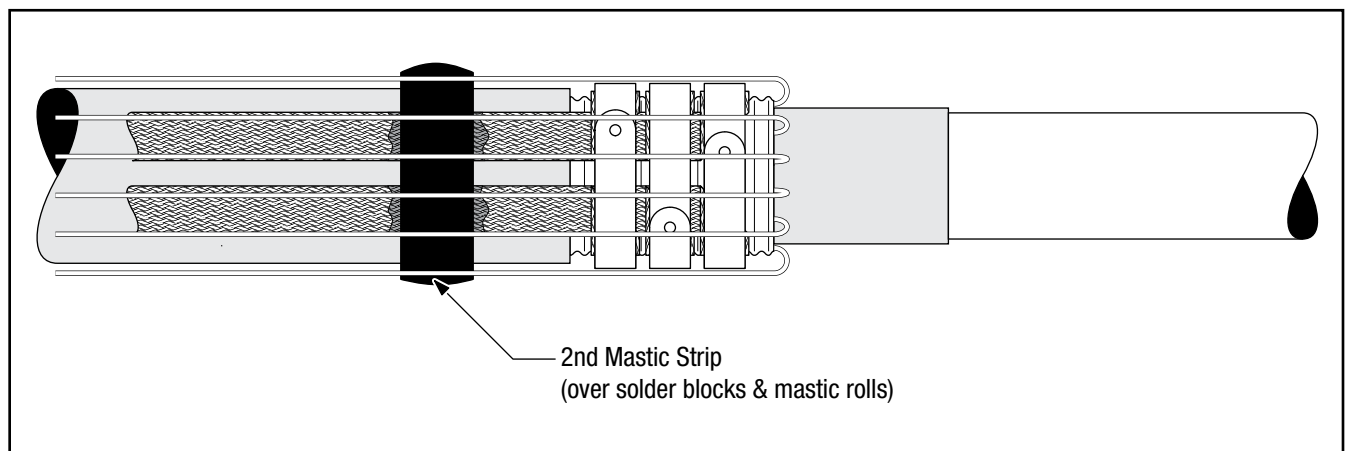

Figure 8
- 2.6 Select the roll of 1" (25 mm) wide 3M™ Scotch-Seal™ Mastic Tape 2229 from the kit and cut a length of the mastic long enough to cover the ground braid solder blocks and previously applied mastic. Using light tension, apply a single wrap of mastic around the cable jacket over the ground braid solder blocks and the previously applied mastic. Fold the shield wires, evenly spaced, back over the mastic. (*Figure 8*)